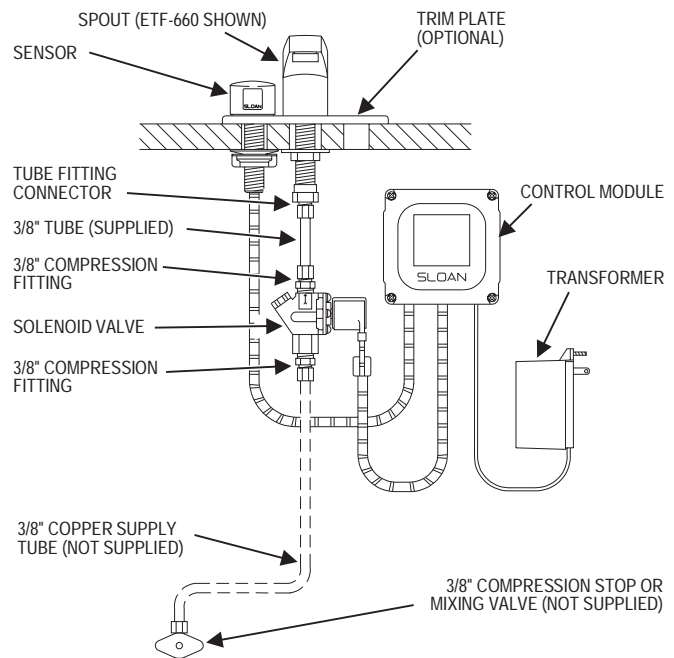

Figure 1
FAUCET ROUGH-IN — Figure 1
Prior to installing the Sloan OPTIMA Series Faucet, install the items listed below. Also, refer to Figure 1.
When connecting the faucet to a hot and cold water supply, two back checks are required as shown in Figure 1. Water temperature can be controlled by adjusting the supply stops if the optional Sloan mixing valve is not purchased. When connecting the faucet to a single line water supply or a pre-tempered water supply, a back check is not required.
Step 5 — Connect Supply Line(s) (Figure 1)
When connecting the Faucet to a hot and cold water supply, two Back Checks are required as shown in Figure 1.
Install a 3/8 inch copper Supply Tube between each Back Check and the Compression Tee Fitting supplied (refer to Figure 1).
Refer to Figure 1 — Faucet Rough-In for Additional Information.
Step 7 — Mount Control Module to Wall (Figures 1 and 11)
Install the Control Module in an appropriate location as shown in Figure 1. Control Module must be installed so that all cables enter from the bottom of the unit. When installed, Cables from the Sensor and Solenoid Valve to the Control Module should have some slack.